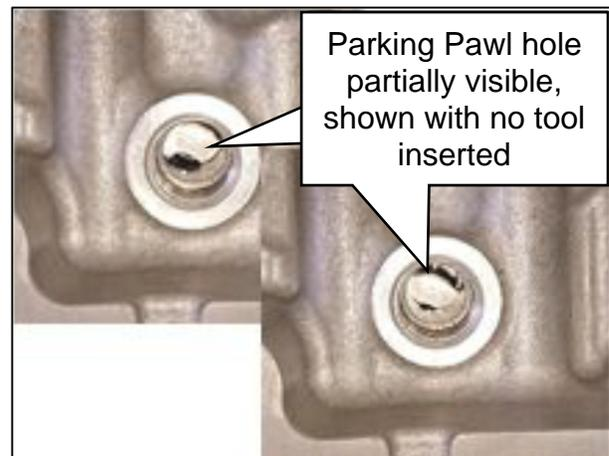

Figure 13
- If the Parking Pawl hole is partially visible as shown in Figure 13, the Parking Pawl may have moved out of position. Continue to step 16 on page 9 for **Parking Pawl Position Alignment**.
- If the Parking Pawl and the Transmission Case holes are NOT aligned, as shown in Figure 13 and Figure 14 on page 8, continue to step 17 for **Parking Pawl Position Recovery**.